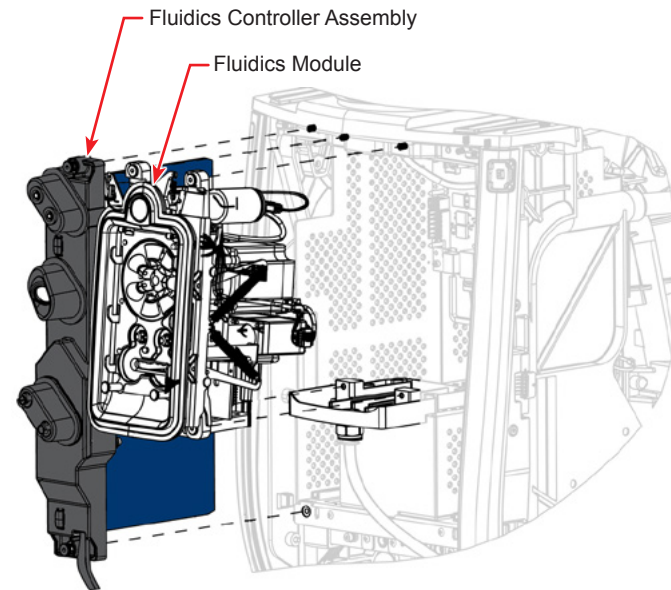

Figure 3-12 Fluidics Module and Fluidics PCB Assembly Removal
- 18.3 Loosen four 3 mm captive hex screws securing top and bottom of Fluidics Module to chassis (see Figure 3-12).